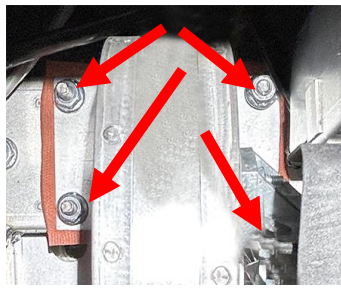

Figure 83
82. Reattach the blower using the four (4) nuts (see Figure 83).